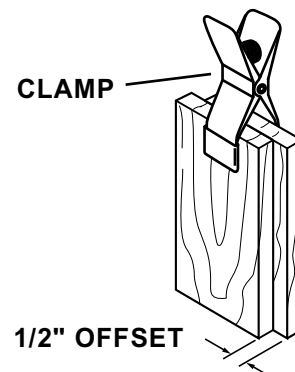

Figure 46
4. Offset the two pieces of wood 1/2" and clamp them together. See Figure 46.